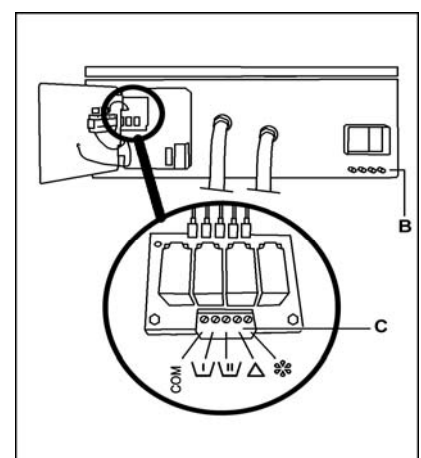

fig. 2
6. Connect the wires to the relay board. Associate each one of the four electric external dosing signals relating to the machine to a different product inlet. To make sure each product is correctly associated with its function, refer to the indicator attached to the connection board. (**figure 2/C**).
8. Locate the entries of the dosing product at the rear of the machine and remove the tube caps (see the technical specifications section). (**figure 2/B**).
9. Connect the product hoses to the nipples on the manifold and secure them with the right clamps. (**figure 2/B**).